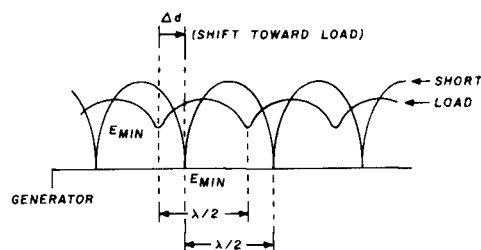

fig. 6. Standing-wave patterns on a slotted line with a capacitive load and with a shorting termination. Courtesy Hewlett-Packard Company.
2. Note the exact carriage positions in millimeters (from the scale) for two adjacent voltage minima. Record the difference between the two positions, which is equal to $\lambda/2$, as shown in **fig. 6**. Also record the position of one of the minima.